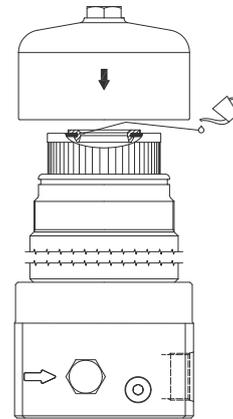

Fig. 4
- 5** Lubricate the filter element seal with the operating fluid prior to installation (see fig. 4).